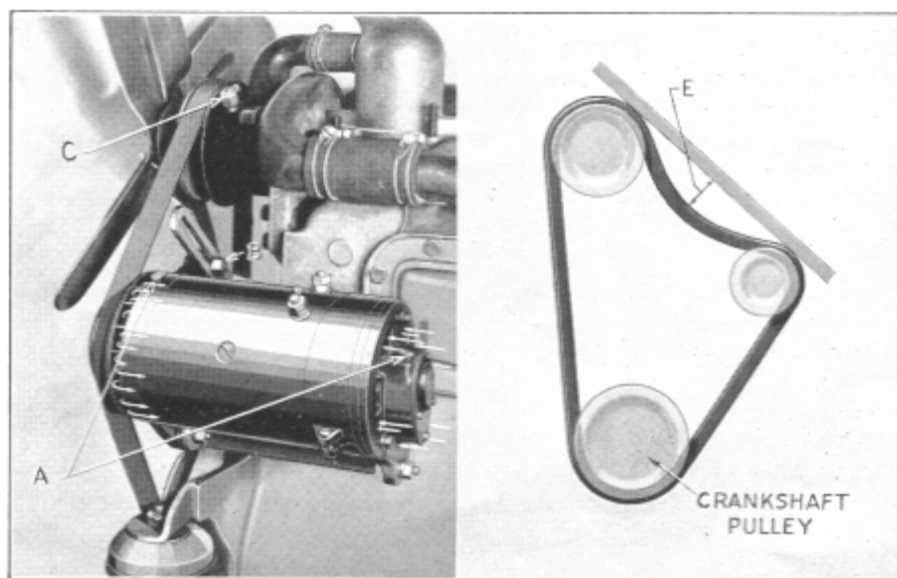

Figure 10
The generator is of the ventilated type, Figure 10, allowing a greater output than is practical with the non-ventilated type. It will be noted from the illustration that air is drawn through the generator from the rear by a suction fan at the front end and is deflected back over the generator by the engine fan.
A few drops of light oil should be supplied to cups (A), Figure 10, every 1,000 miles. Do not over-lubricate.
The generator is driven by the "V" type belt, which also drives the fan and water pump. This belt must be kept sufficiently tight to prevent slippage on the pulleys. When properly adjusted the belt will have from $\frac{3}{4}$ " to $1\frac{1}{4}$ " of slack at a point midway between the fan pulley and generator pulley as shown at (E), Figure 10. This adjustment provides sufficient tightness to prevent slippage without causing undue wear of the fan and generator bearings.
The pump should be lubricated every 1,000 miles through the pressure fitting (C), Figure 10, with a high-grade aluminum soap grease.